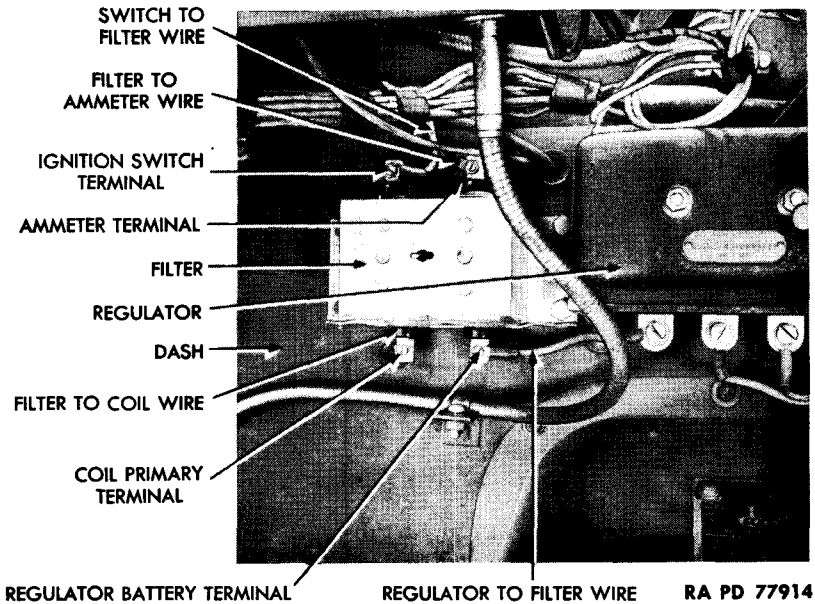

Figure 107 – Dual Unit Filter With Cover Removed
(1) **DESCRIPTION** (fig. 107). Two filter units are combined in a single dual unit filter assembly mounted in driver's compartment on dash to left of regulator. The supply filter unit is connected in series in the generator regulator to ammeter battery circuit. The ignition filter unit is connected in series in the ignition switch to coil circuit. Each unit consists of a coil and one or more condensers connected internally in a grounded metal can. The filters cut down radio interference without interfering with the flow of current.